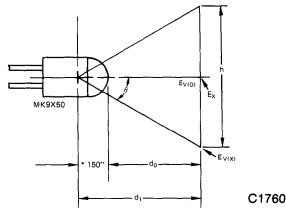

Fig. 12. Lamp to Legend Mechanical Relationship
1. Edge of legend to center of legend illuminance ratio ( $E_v(x)/E_v(0)$ ) (Figure 12.)